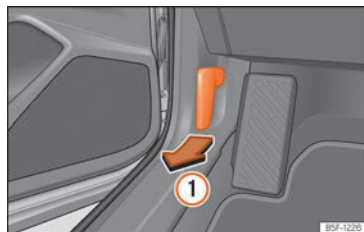

Fig. 221 Release lever in the driver's footwell area.
- Open the door and pull the lever under the dashboard »» Fig. 221 ①.